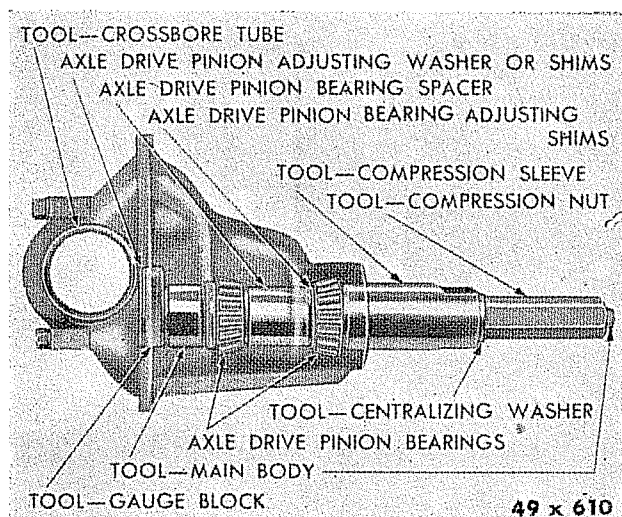

Fig. 8—Main Body, Bearings, Spacer and Shims Installed.
- (1) Pinion Bearing Pre-Load.
- (b) Slide adjusting shims and front bearing over main body, as shown in Figure 8.